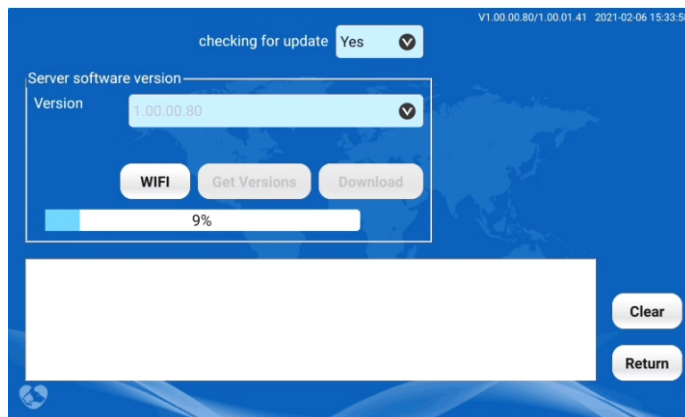

Figure 6-8
- 4) Click "Get Versions" icon to obtain the software version on the server, seeing Figure 6-8.